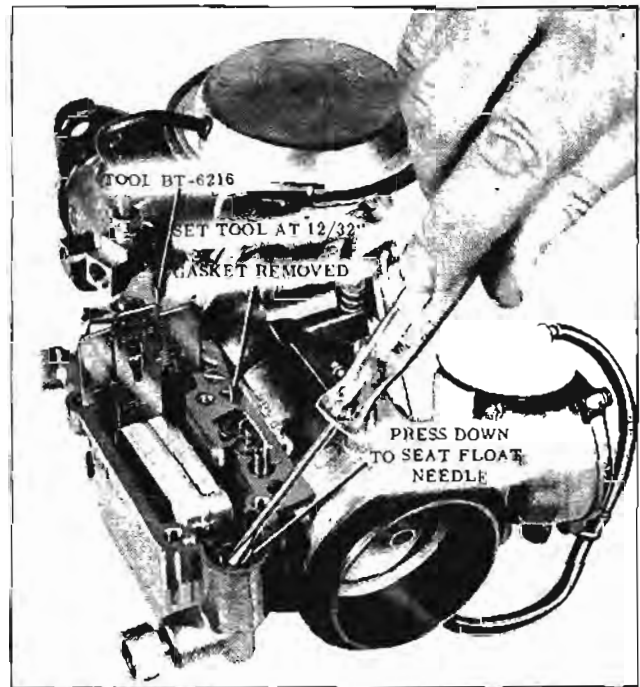

Fig. 9-129 Float Adjustment
10. Float Level Adjustment - Setting 12/32" (Fig. 9-129). To obtain this adjustment, place the notch in gauge BT-62-16 over the edge of the float bowl with the gasket removed as shown. The leg of the gauge should then extend down into the bowl. Measurement should be taken at the end of the bowl opposite the fuel inlet end. Press downward at the rear of the float arm, seating the float needle. With gauge in place, the top corner of the float should just touch the gauge. If adjustment is needed, bend the float pontoon up or down at the float arm.